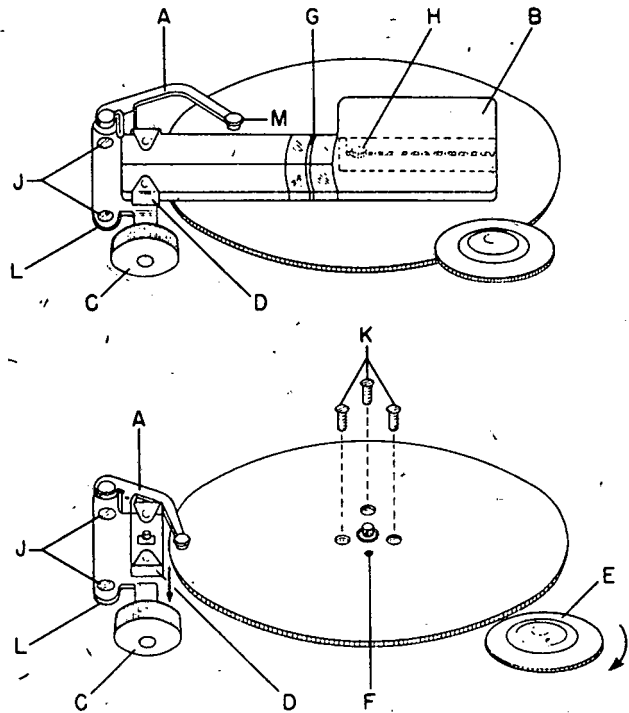

Figure 16. Disassembly of Receiver RR-6-XX dial mechanism
**3. DISASSEMBLY & REASSEMBLY OF DIAL SCALE MECHANISM (Refer to Figure 16)**